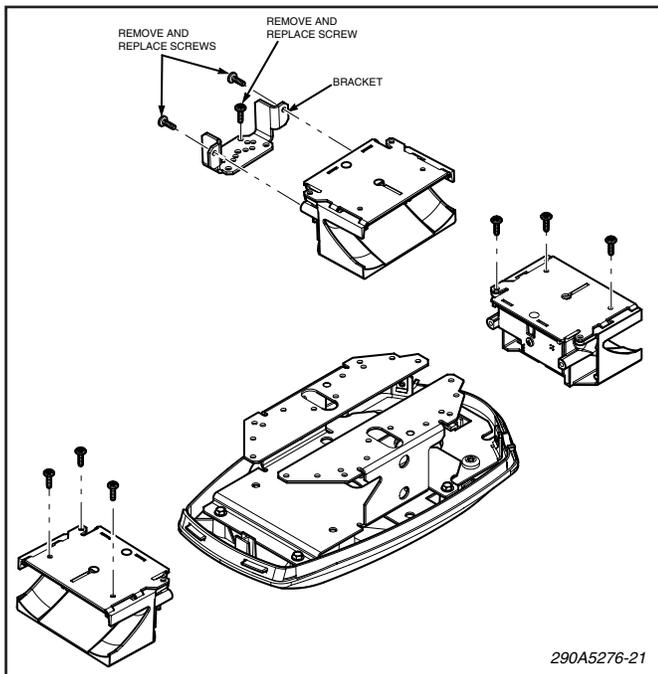

Figure 6-6.
2. See figure 6-6. Note or mark the screw location to ensure reassembly in the proper position. Remove the Phillips screws retaining the reflector assembly, slide the assembly free, and unplug the electrical connector.